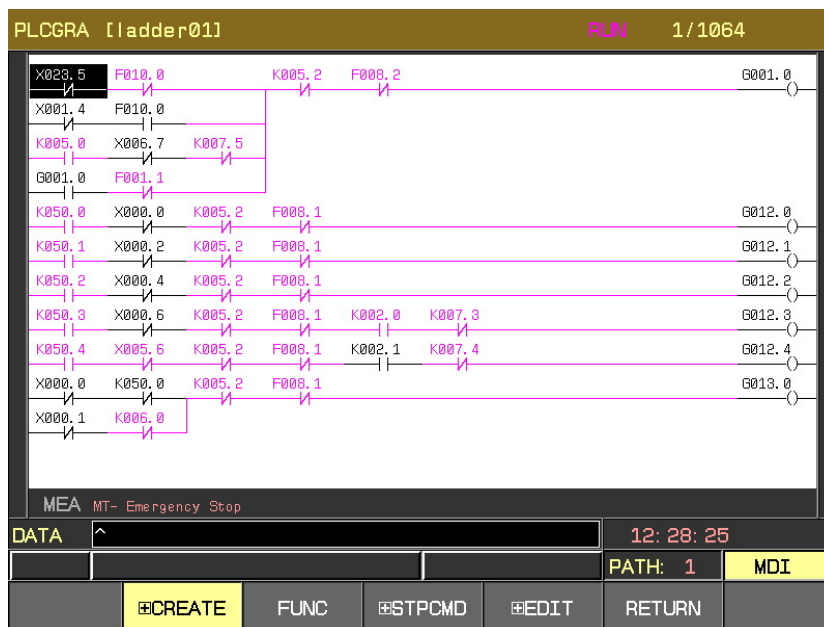
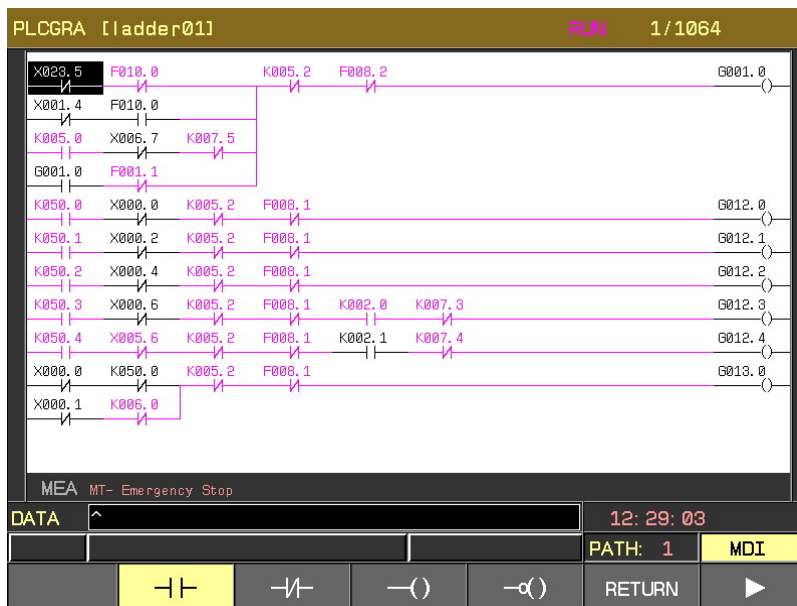
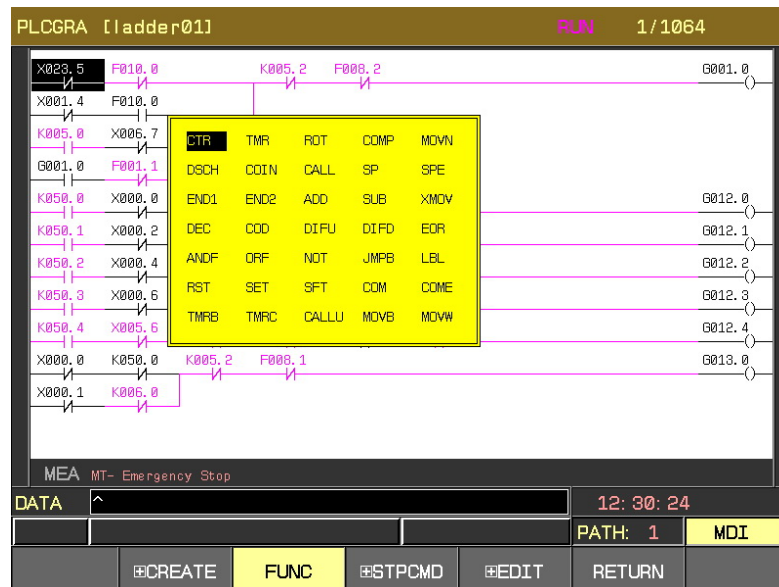

Fig. 2-1-1
Fig. 2-2-1
Fig. 2-4-1
1. Enter PLCGRA classification interface pressing **[PLCGRA]** twice, refer to the **Fig. 2-1-1**:
Enter the basis command operation interface pressing the **[Basis command]** soft key in the Fig. 2-1-1. Refer to the Fig. 2-2-1.
Press the **[Function command]** soft key in the Fig. 2-1-1, then enter the function code operation interface, refer to the Fig. 2-4-1.
In the PLCGRA interface, as the **Fig. 2-1-1**. Press the **[Command table]** soft key again, and then enter the command table classification operation interface, refer to the **Fig. 2-5-1**.